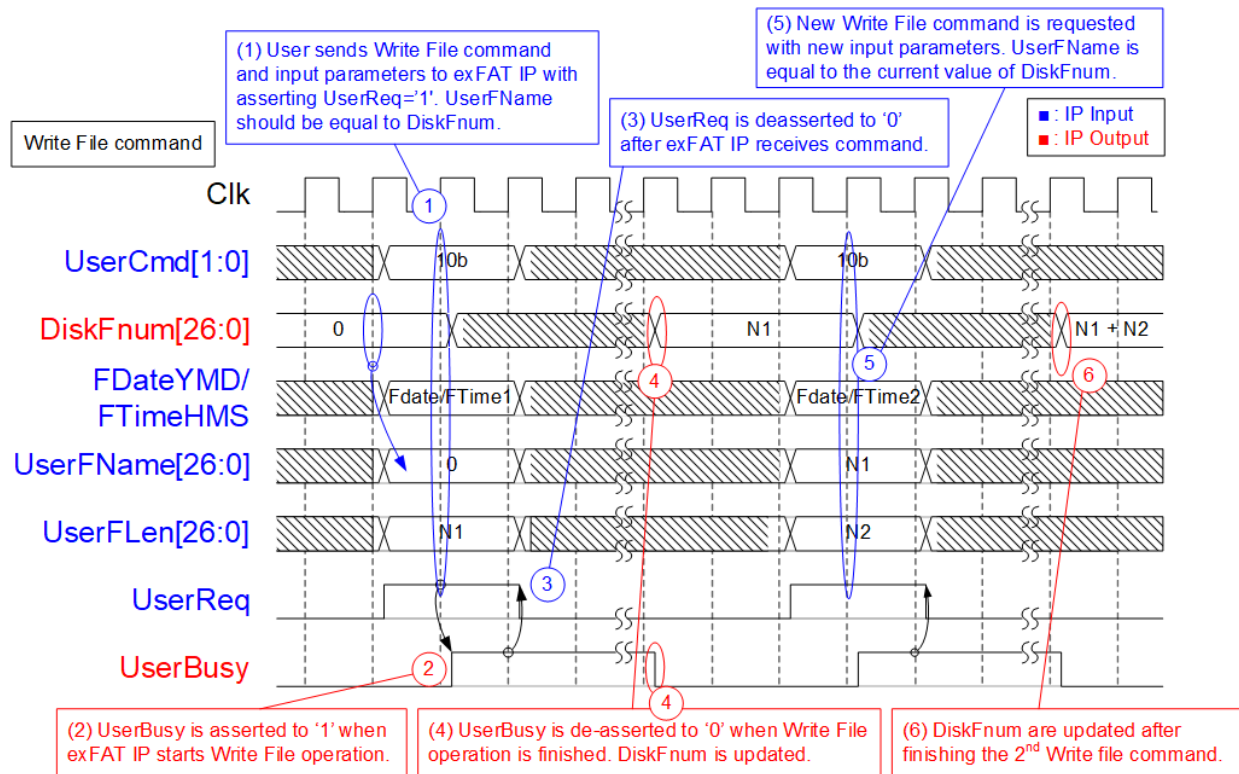

Figure 7: Timing diagram of control interface during Write file command
- 1) User sets UserCmd = 10b (Write File), FDate (created date), FTime (created time), UserFName (the first file name to write), and UserFLen (total number of written file) with asserting UserReq to '1'. UserFName should be equal to DiskFnum to create new file name which is the next value from the latest name. UserFLen must not be more than TotalFCap - UserFName. As shown in Figure 7, UserFName is equal to 0 when running the first Write file command to empty device.